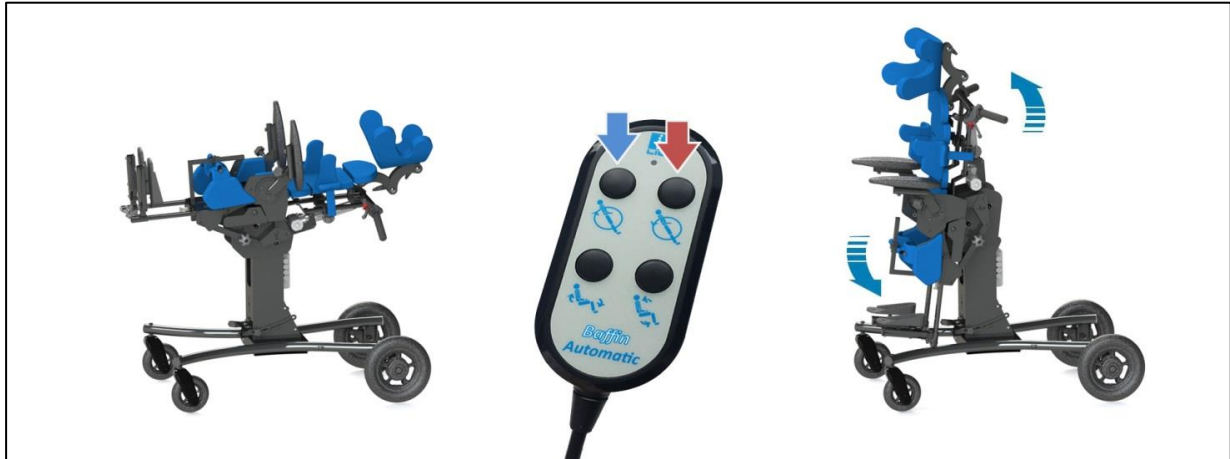

Fig. 14 Changing the position from lying to standing
- a) press the remote control button marked with a red arrow (Fig. 14) until you reach the recumbent position